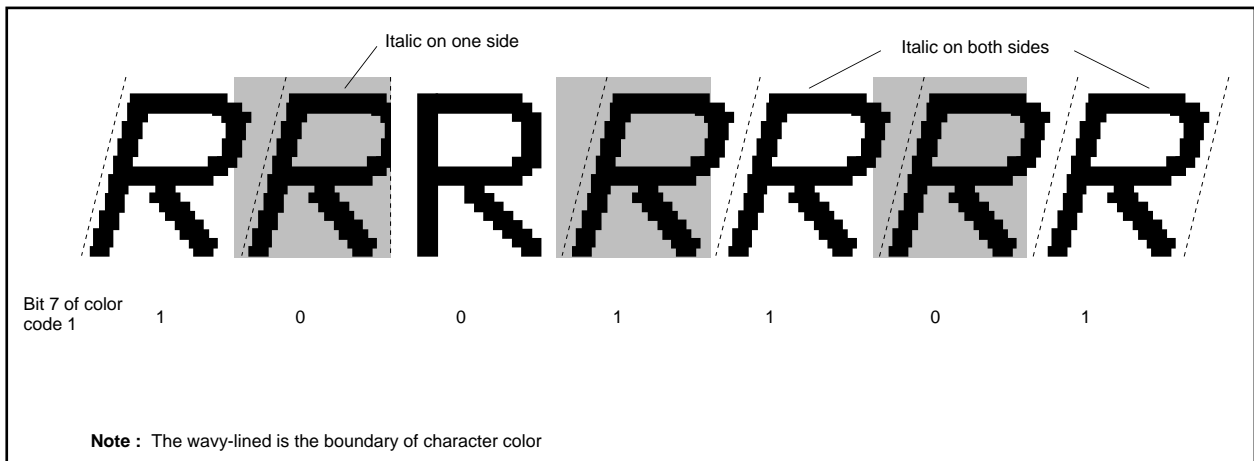

Fig. 75. Example of Italic Display
The display example of the italic and underline is shown in Figure 75. In this case, "R" is displayed.
- 3: The boundary of character color is displayed in italic. However, the boundary of character background color is not affected by the italic (refer to Figure 75).
- 4: The adjacent character (one side or both side) to an italic character is displayed in italic even when the character is not specified to display in italic (refer to Figure 75).